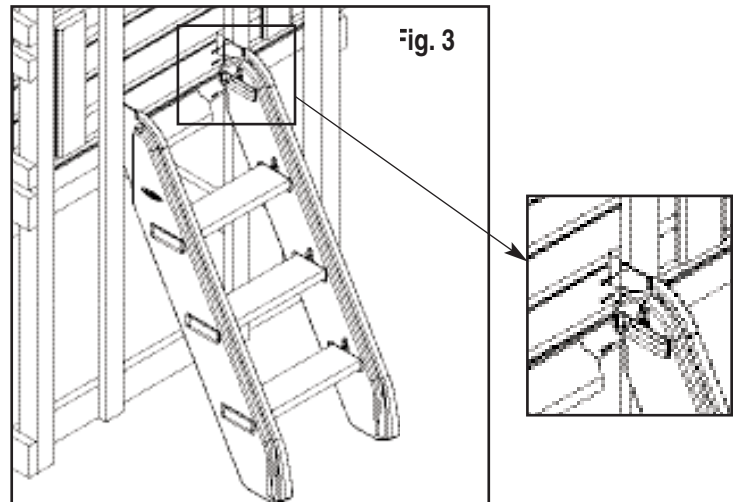

Fig. 3
5. Secure the Climbing Step Assembly to the play deck using three #14 x 1¼" pan head screws on each side as shown. **(Fig. 3)**